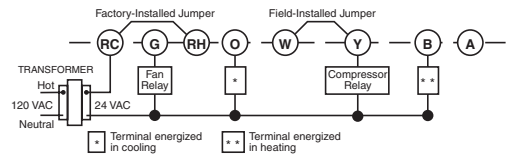

Figure 4. Typical wiring for single transformer, single stage heat pump system
- Electric heat or single stage heat pump systems:** These thermostats are configured from the factory to operate a heat/cool, fossil fuel (gas, oil, etc.) forced air system. This is correct for any system that DOES NOT require the thermostat to energize the fan on a call for heat. If your system is an electric heat or heat-pump system that REQUIRES the thermostat to turn on the fan on a call for heat, remove the yellow factory-installed jumper wire from the **Y** terminal and connect it to the **A** terminal. This will allow the thermostat to energize the fan immediately on a call for heat. If you are unsure if the heating system requires the thermostat to control the fan, contact a qualified heating and air conditioning service person. For single stage heat pump applications (no auxiliary heat), install a short jumper wire (not included) across terminals **W** and **Y**. If the system has a reversing valve connection energized in Cooling, attach it to **O**. If the system has a reversing valve connection energized in Heating, attach it to **B** (see Fig. 4). This thermostat will not provide multi-stage heating or cooling.